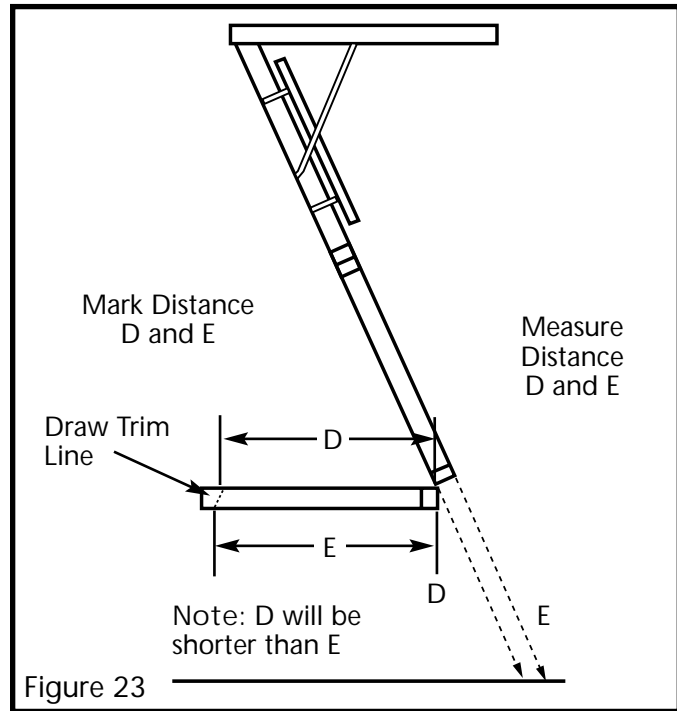

Figure 23
STEP 2. Fold the bottom section of the access ladder under the middle section. (Figure 23)
STEP 3. With a straight edge, measure distances "D" and "E" as shown in Figure 23 and record the measurements in the spaces below. These distances must be accurately measured to avoid trimming the legs too short.
STEP 4. Measure down from the top of the lower section and mark the measurements "D" and "E" on each side rail. Draw a trim line connecting the 2 marks (Figure 23). These trim lines must be drawn accurately to avoid trimming the legs too short.